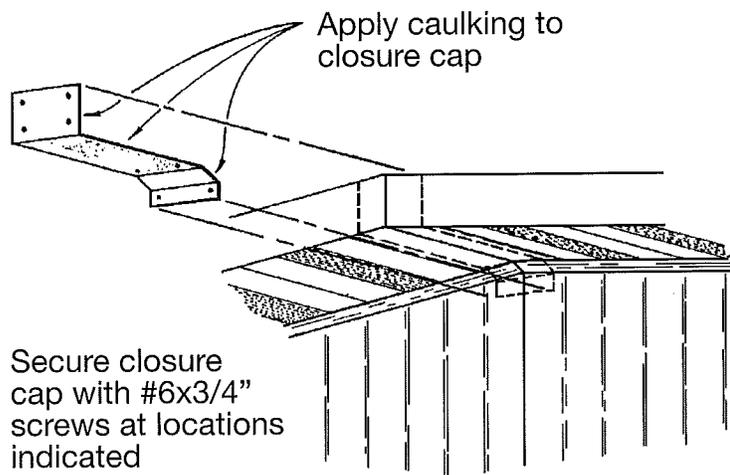

FIG. 5-26
12. Install closure cap at eave joint (See Fig. 5-26).